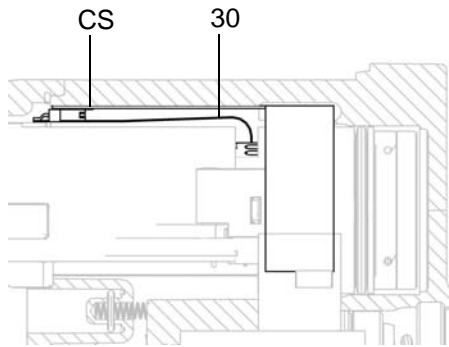

FIG. 36 . Connect Flexible Circuit
8. Insert the power supply/turbine assembly in the gun body (10). Make sure the ground strips (EE) make contact with the gun body.
Smart models only: align the connector of the 6-pin flexible circuit (30) with the socket (CS) at the top of the gun body. See FIGURE 36.